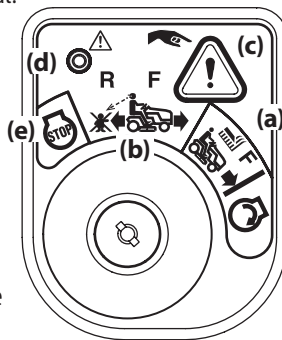

Figure 19
3. Press and hold the REVERSE CAUTION MODE BUTTON (c) at the top, right corner of the ignition module for 3 seconds. The red indicator light (d) at the top, left corner of the ignition module will be ON while activated. See Figure 19.